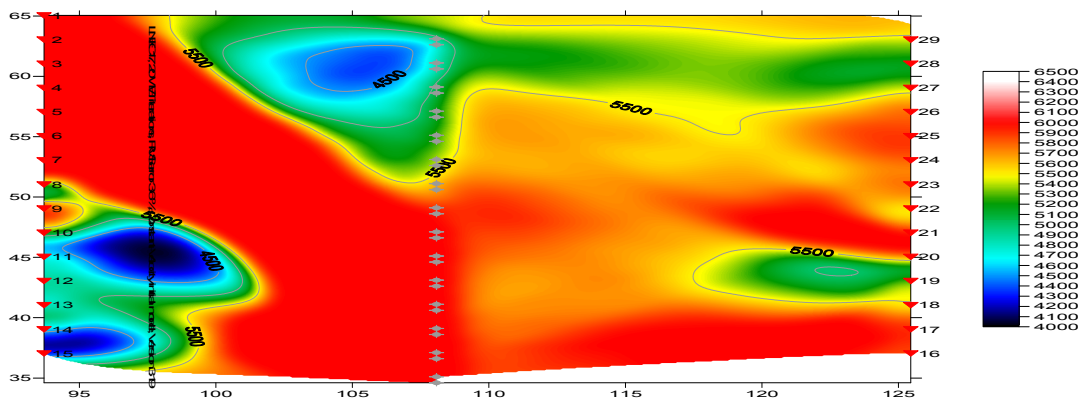

Fig. 1 : Default WET parameters : wavepath width 0.6%, smoothing filter : half width 5, half height 5
- invert traveltim data with *Smooth invert|WET with constant-velocity initial model* to obtain Fig. 1 :